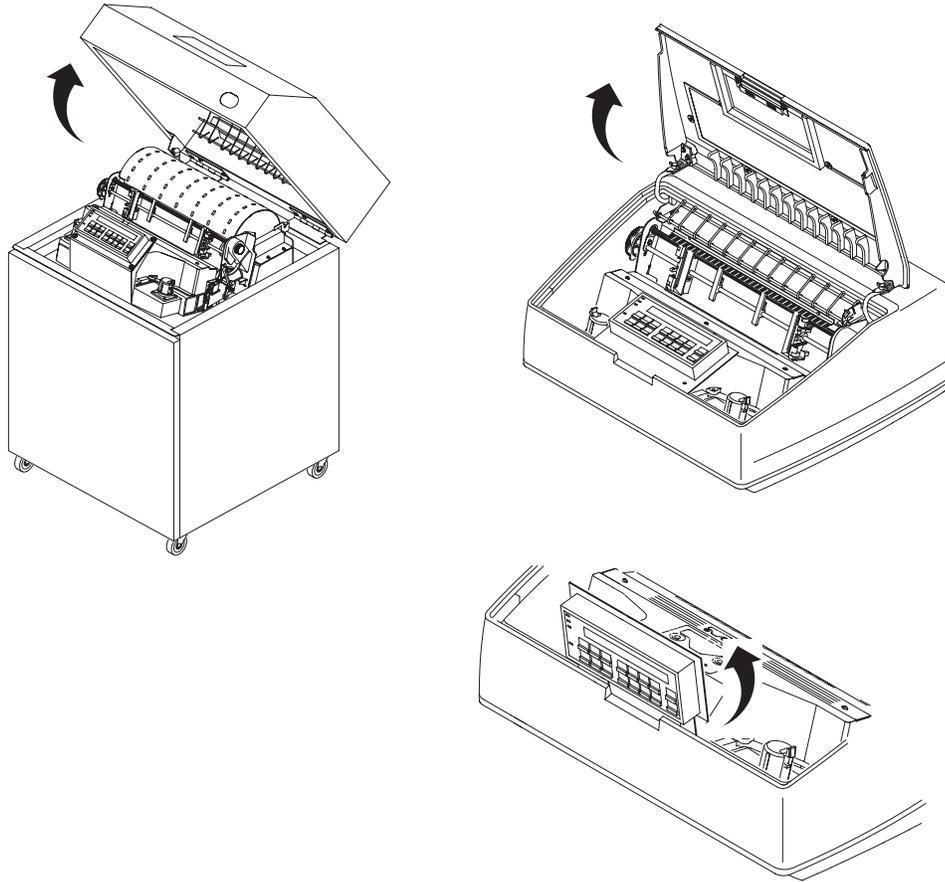

Figure 2–18. Opening the Printer Cover
2. Open the printer cover. (See Figure 2–18.)